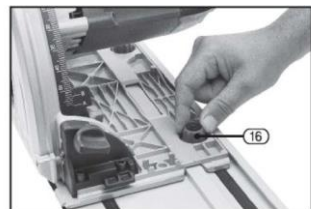

FIG.9
11.6 Guide rail adjustment (Fig. 9)
- Tighten the adjusting knob (16) to minimize the clearance between the saw and the rail.